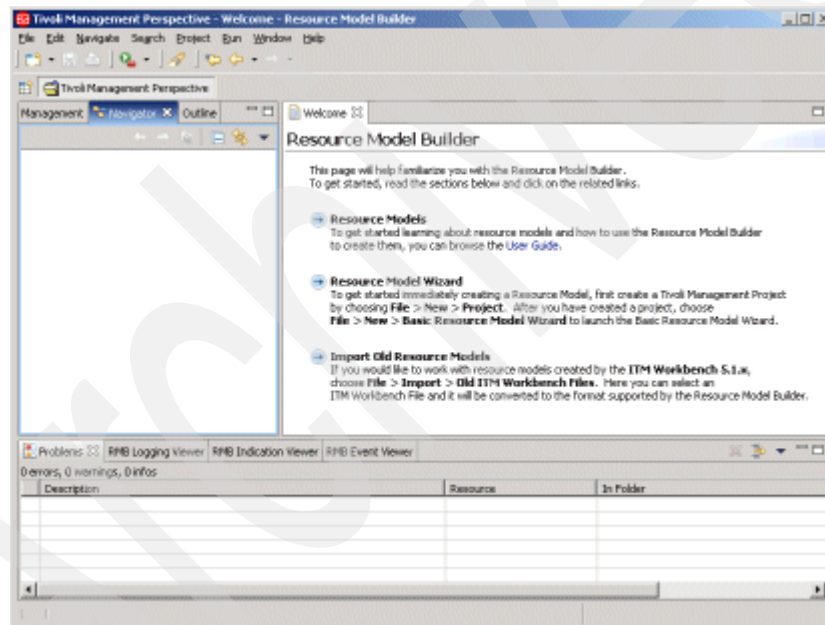

Figure 9-33 Main window of Resource Model Builder.
3. Start Resource Model Builder. The main window displays as shown in Figure 9-33.